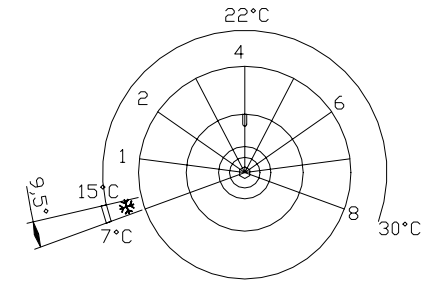

Figure 3 : Scale of the knob 2 of TH-RAD
- Turn the knob 2 to choose the desired temperature ambient of the room. In the panel you see the numbers of the scale. With knob 1 in "Comfort Forced" mode, the range of the temperature is 15°C to 30°C, except for the minimum position which corresponds to 7°C. The figure 3 shows the scale of the knob 2.